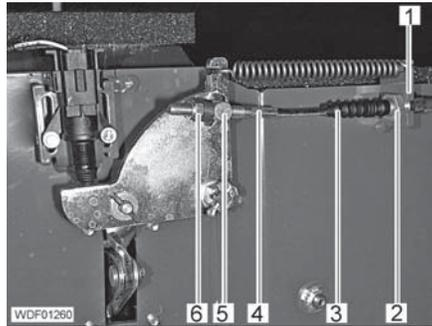

Fig. 266 Bowden cable on the hand-brake lever
- Unscrew the nut (Fig. 266,6).
- Pull the Bowden cable (Fig. 266,4) downwards and out of the holder (Fig. 266,5).
- Pull off the rubber bushing (Fig. 266,3).
- Unscrew the nut (Fig. 266,2) from remove it from the Bowden cable.
- Remove the Bowden cable downwards out of the holder (Fig. 266,1).
- Push the Bowden cable (Fig. 266,4) into the holder (Fig. 266,1) from below.
- Screw the nut (Fig. 266,2) onto the Bowden cable and tighten it.
- Attach the rubber bushing (Fig. 266,3) onto the Bowden cable.
- Insert the Bowden cable (Fig. 266,4) into the holder (Fig. 266,5) from below.
- Screw the nut (Fig. 266,6) with the spacer ring onto the Bowden cable.
- Screw the nut (Fig. 266,6) onto the Bowden cable sufficiently far so that the parking brake can be pulled in up to the fifth or sixth catch.